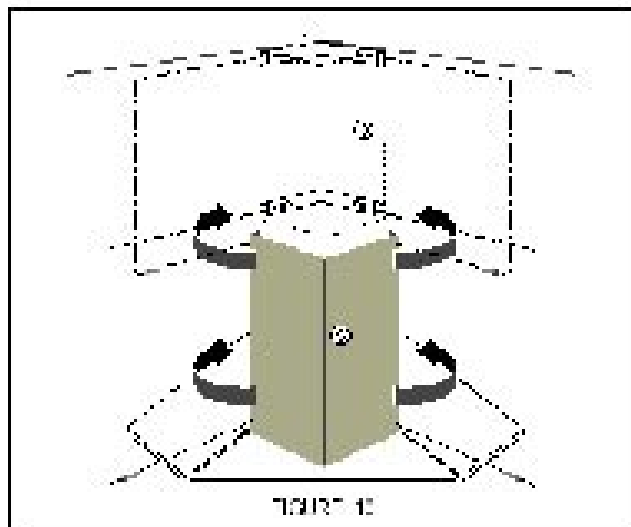

FIGURE 10
10. The chimney must be attached to the body of the rangehood. The attachment of the chimney (S in FIGURE 10) must be installed first.